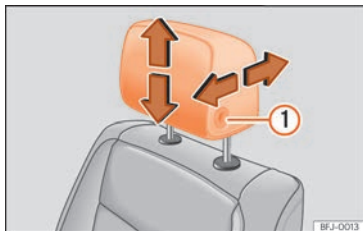
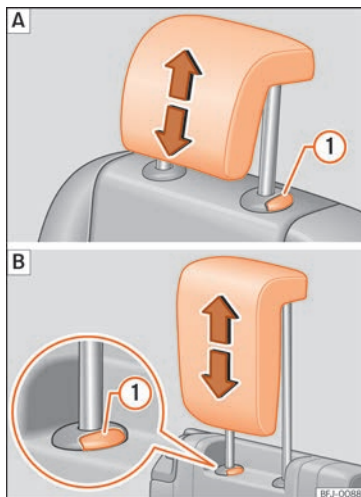

Fig. 142 Adjusting the front head restraints.
Fig. 143 Adjusting the rear head restraints: **A** Second row of seats, **B** third row of seats.
- Move the head restraint towards the front or the back while pressing »» **Fig. 142 B 1**, backwards in the direction of the corresponding arrow.
- Move the head restraints upwards or downwards in the direction of the corresponding arrow; if necessary, press »» **Fig. 142 1** or »» **Fig. 143 1** »» **Δ** in Introduction on page 150 at the same time.